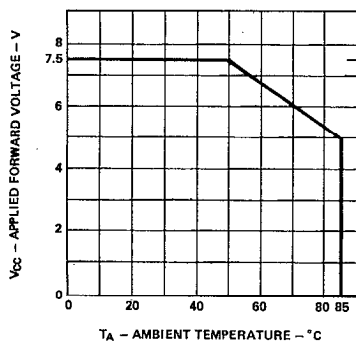

Figure 3. Maximum Allowed Applied Forward Voltage vs. Ambient Temperature $R_{\theta JA} = 175^{\circ}\text{C/W}$. 5 Volt Devices.
2. Derate from T_A = 50°C at 0.071 V/°C, see Figure 3.